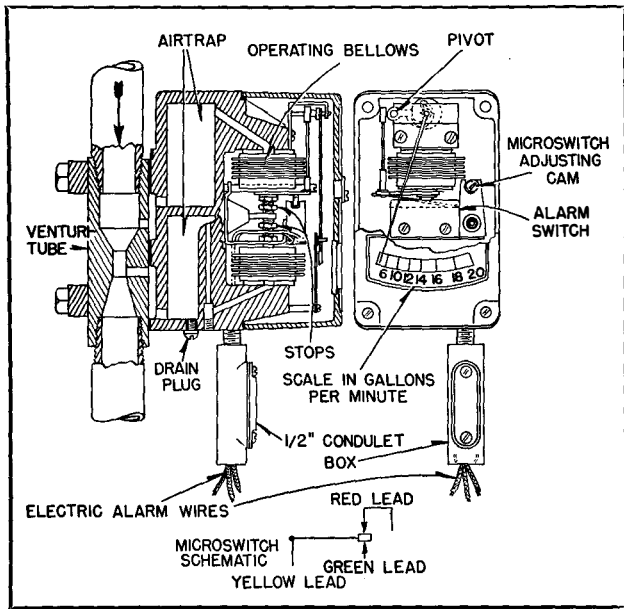

FIG. 1. Cross-Sectional View of Water Flow Indicator
The Westinghouse water flow indicator is composed of four main component parts: (1) the Venturi tube; (2) the air traps; (3) the differential pressure gauge; (4) the alarm contacts. (See Figure 1).
The differential pressure gauge has two siphon bellows arranged co-axially as shown on the cutaway view. (Figure 1). One end of each bellows is securely fastened to the frame of the indicator. The two adjacent ends are attached to a common shaft which transmits the movement of the bellows to the alarm mechanisms and to the pointer, indicating on a scale the rate of water flow in gallons per minute.
The complete indicator is designed for installation in a 1-inch iron pipe size line and for a maximum pressure of 50 pounds per square inch. Care should be taken not to connect the indicator to a line of higher pressure. The standard indicator for transformer application is designed to read correctly when the flow is down, through the Venturi tube. The direction of flow is indicated by an arrow on the Venturi tube (See Figure 1). If the water flows in the wrong direction, the indicator will not read correctly with any rate of flow.